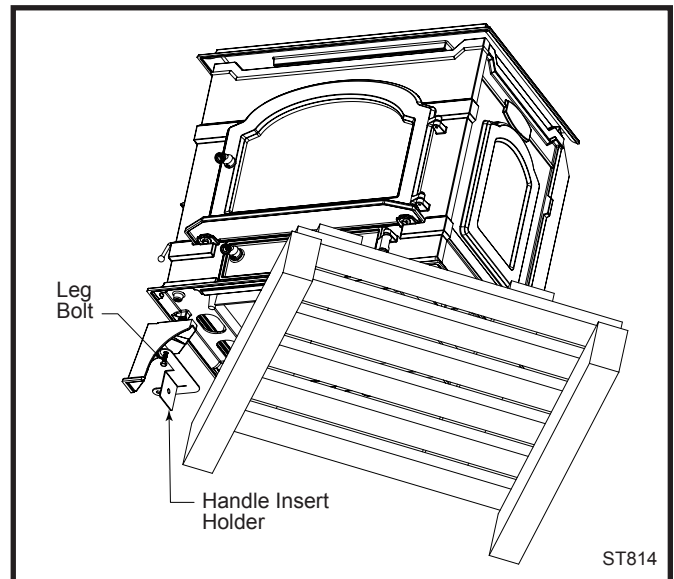

Fig. 16 Rotate stove on pallet to expose front left corner.
2. Rotate the stove counterclockwise until the front left corner overhangs the pallet and the leg-mounting hole is accessible. (Fig. 16)
3. Remove and discard the (4) 1/4-20 x 3/8" hex head bolts that are in the leg holes on the bottom of the stove.